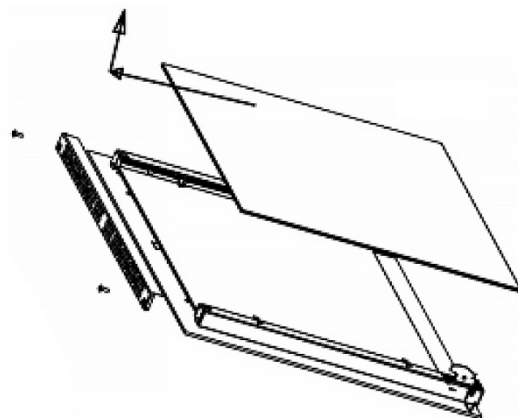

Fig.4
2. Take out upper bracket and first pane of glass (Fig.4)